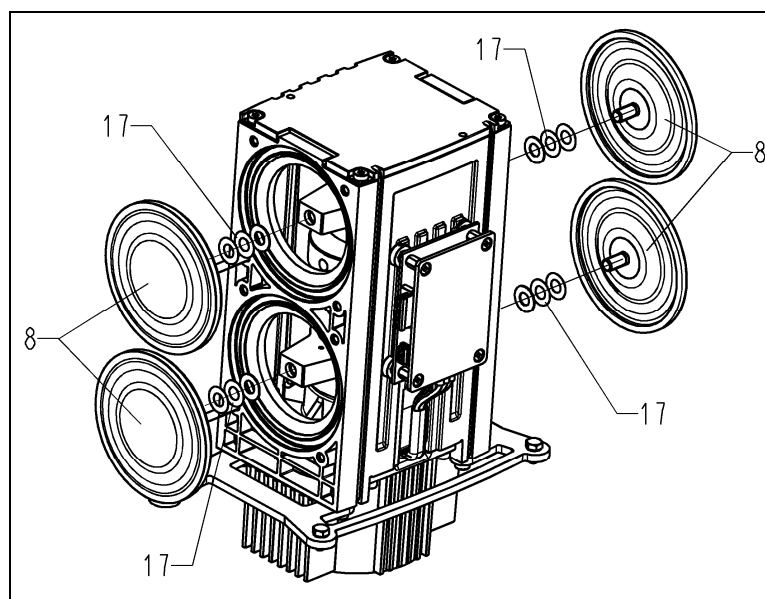

Fig. 27: Replacing the diaphragm
1. Manually remove the four diaphragms (Fig. 27/8) by turning them in the counterclockwise direction.
3. Manually screw the new diaphragms (Fig. 27/8) into the connecting rods' threads and tighten to hand tightness.